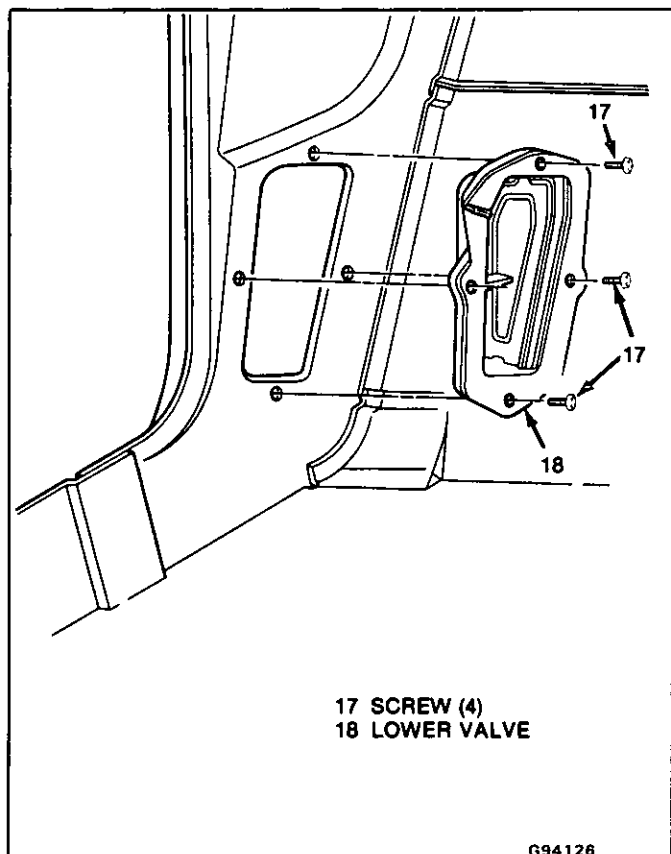

Fig. 9-Lower Pressure Relief Valve
**↔** Remove or Disconnect (Figure 9)
3. Four screws (17)
4. Valve (18)
**↔** Install or Connect (Figure 9)
1. Valve (18)
2. Four screws (17)